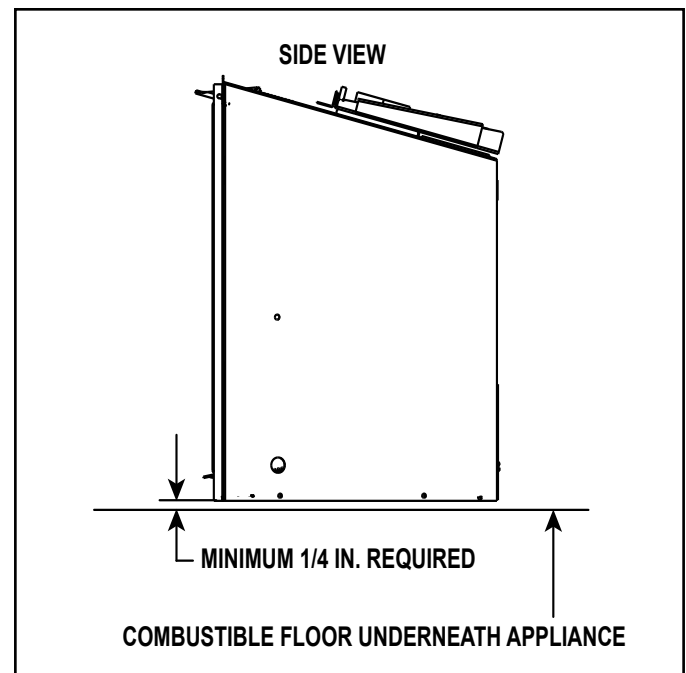

Figure 3.21 Solid Fuel Floor Clearance
- A minimum 1/4 inch gap from the bottom of the appliance to the metal floor of the solid fuel firebox is **REQUIRED**. See side view in Figure 3.21.
- Combustible flooring underneath the appliance is acceptable with a 1/4 inch gap. See Figure 3.21.